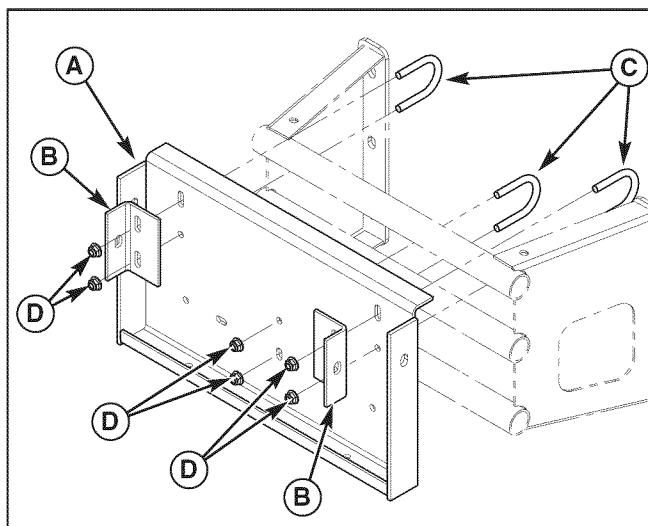

Figure 33. Install Collector Mount Plate
1. Install the collector mount plate (A, Figure 33) and mount tabs (B) on to the bumper. Install two of the 3/8-16 U-bolts (C) over the top bumper tube and through the mount tabs and loosely secure with the 3/8-16 nylock flange nuts (F).
2. Install the remaining 3/8-16 U-bolt bolt (C) over the middle bumper tube and loosely secure with the 3/8-16 nylock flange nuts (E).